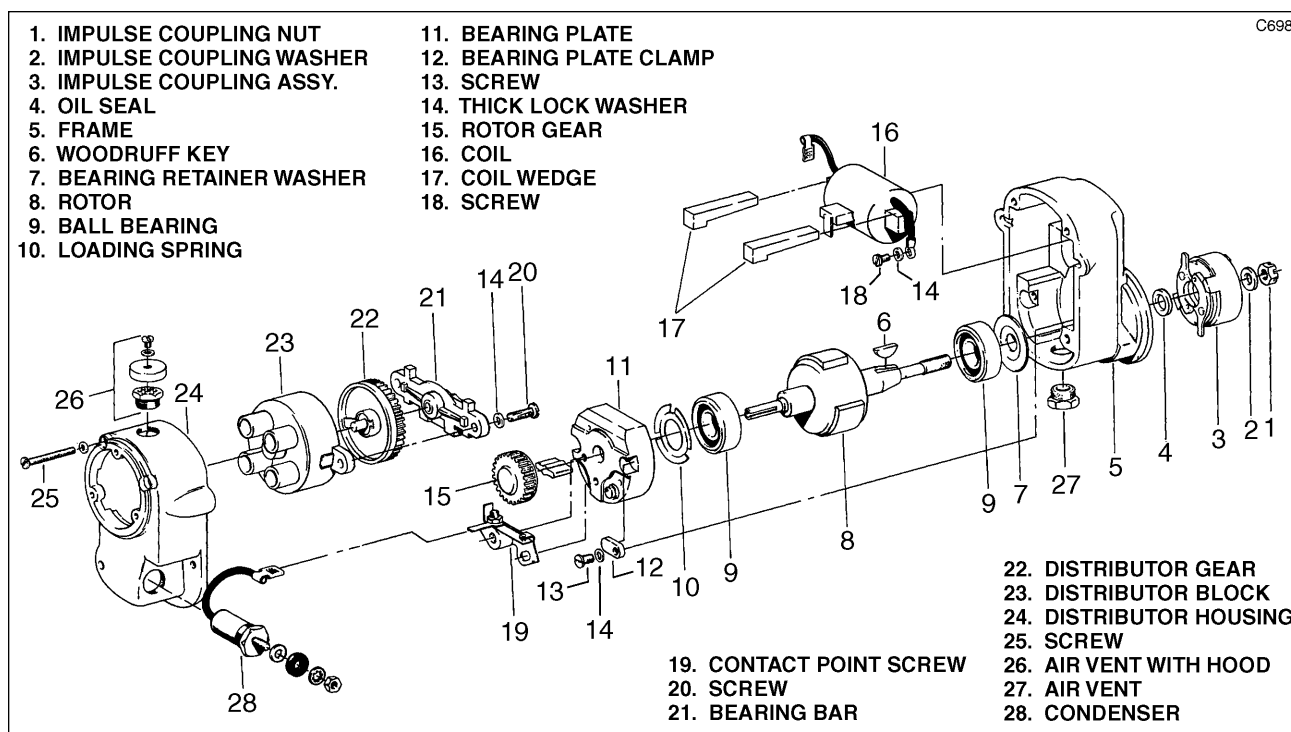

Figure 8-7. Exploded View of 4200/4300 Series Magneto
### 8-24. DISASSEMBLY OF SLICK 4200/4300 SERIES MAGNETOS. (Refer to Figure 8-7 and latest revision of Slick Service Bulletin No. SB2-88A.)
- B. Insert the T-118 timing pin (refer to Figure 8-7) in L or R hole in the distributor block. Turn rotor opposite the rotation of magneto until the pin engages the gear and install magneto and gasket on the mounting pad of the accessory housing and remove the timing pin. Tighten the bolts finger tight.